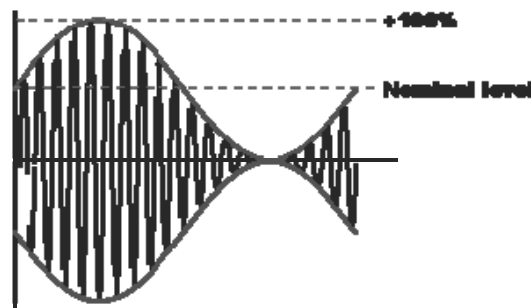

Fig. 4.2: $m = 100$
1. Vary V_m , such that we get waveform on CRO as Fig 4.2 and note its corresponding $V_{\max}$ and $V_{\min}$.